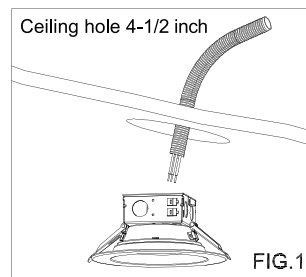

FIG.1
- Cut to 4 ½ in. hole in the ceiling. (FIG1)
- Cut to 6 ½ in. hole in the ceiling. (FIG1)